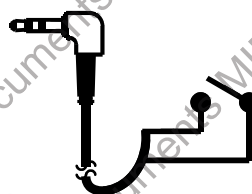

Fig. 21
- (3) DIS: Disable the mute function.
(4) HOLD: Fig. 21